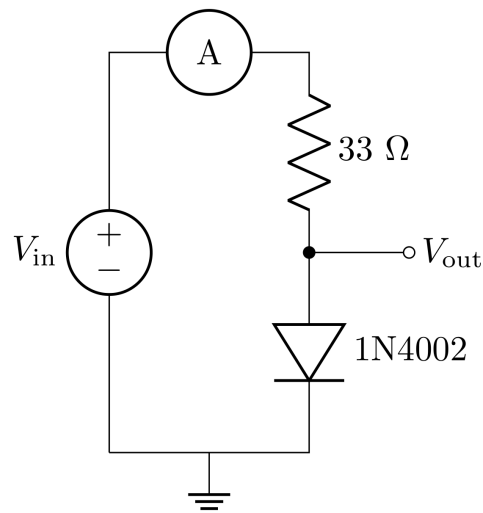

Figure 9: Simple diode circuit
1. Build the circuit in Figure 9 using the silicon diode 1N4002 and draw the diagram in your lab notebook. Measure the $33\ \Omega$ resistor before placing it in the circuit and record the measured value.